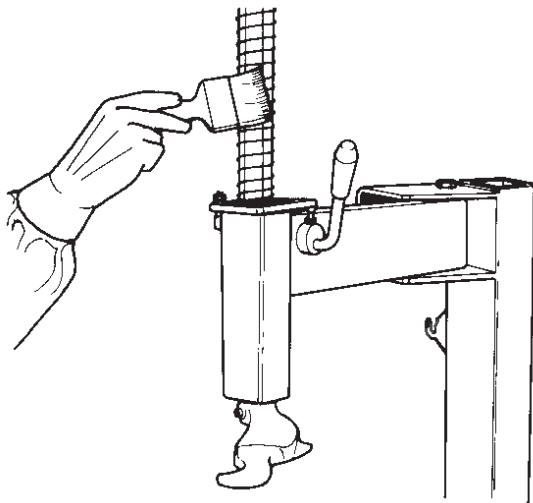

Fig. 27
A. Periodically clean the vertical hexagonal rod with liquid detergent. After this immediately lubricate with a light lubricating oil (Fig. 27).